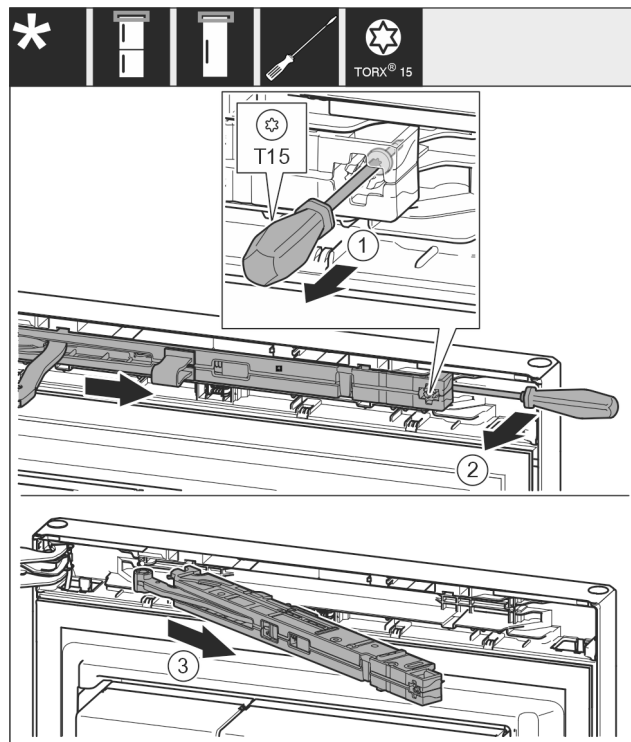

Fig. 12
- Loosen the screw Fig. 12 (1) on the closing damper unit with a 14 mm (9/16 in) screwdriver.
- Use the screwdriver to lift out the closing damper unit Fig. 12 (2) on the handle side.
- Pull out the closing damper unit *Fig. 12 (3)*.